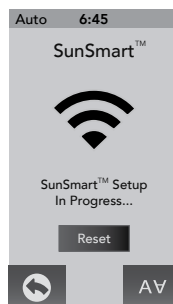

Figure 12.8c
2. Tap **Reset**, Figure 12.8c. The display will change to "Spa Wi-Fi Setup In-progress."